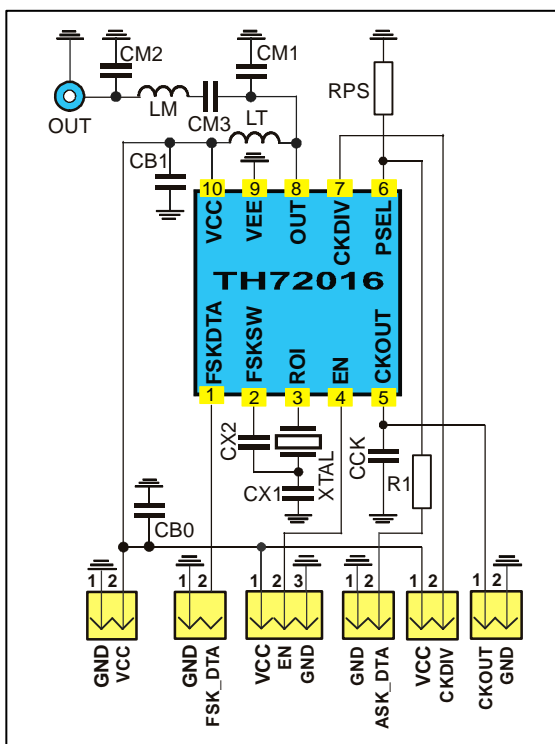

Fig. 6: Test circuit for FSK and ASK with 50 Ω matching network
typical values at $T_A = 23\text{ }^{\circ}\text{C}$ and $V_{CC} = 3\text{ V}$; test circuit shown in Fig. 6, $f_c = 433.92\text{ MHz}$
typical values at TA = 23 °C and VCC = 3 V; test circuit shown in Fig. 6
5.1 Test circuit component list to Fig. 6